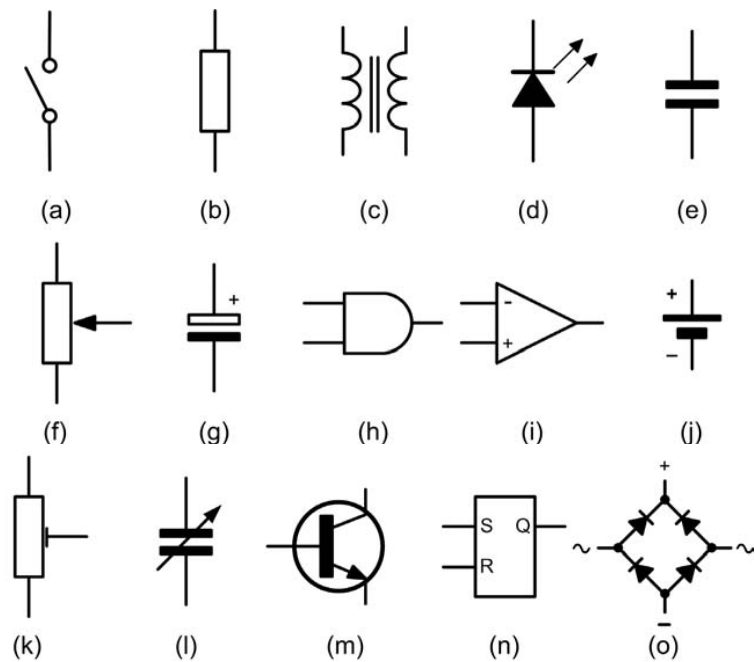

Fig.11.2 See Question 11.2
11.2. Identify each of the symbols shown in Fig.11.2.